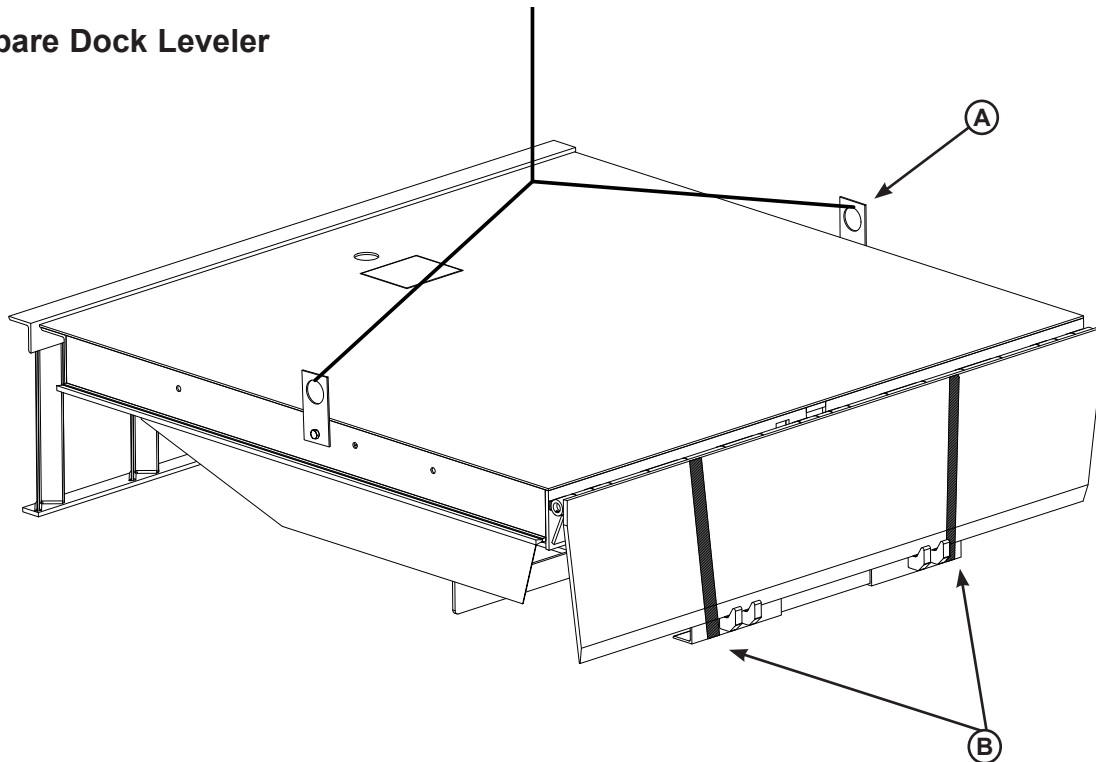

Figure 6
Poweramp dock levelers are shipped with lifting brackets (A) fastened to the platform side joists, and shipping bands (B) around the platform lip and leveler frame (see Figure 6)
3. Attach lifting chains to lifting brackets (A) and to a lifting device (i.e., hoist or fork truck) having the appropriate lifting capacity and reach.